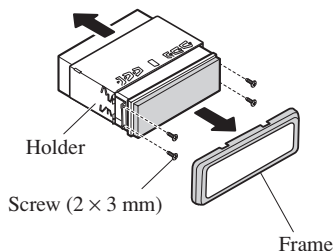

Fig. 15
- **Remove the frame and the holder. (Fig. 15)**